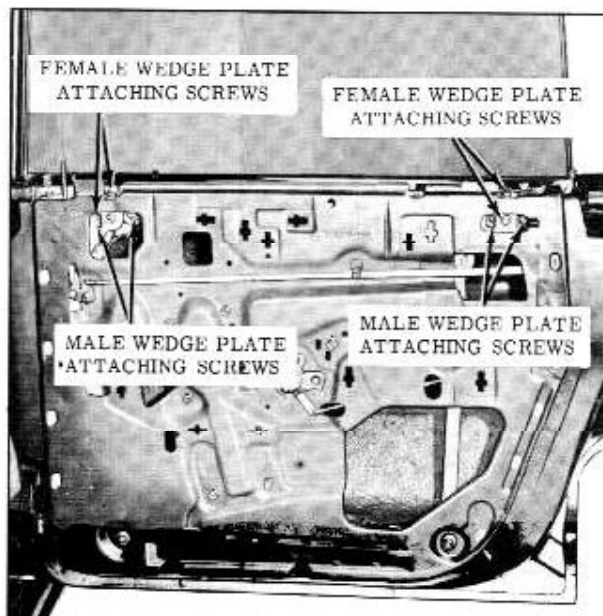

Fig. 17-53 Rear Door Assembly ("39" Style)
2. Through access holes in door inner panel remove screws securing rear door window front and rear male wedge plates to window lower sash channel and remove wedge plates. (Fig. 17-53)
- a. Loosen lower adjusting stud nut on both front rear guide cams. (Fig. 17-53)
- a. With window in full up position, loosen guide cam lower adjusting stud nut and screws securing female wedge plate and guide cam to top of door inner panel. (Fig. 17-53)